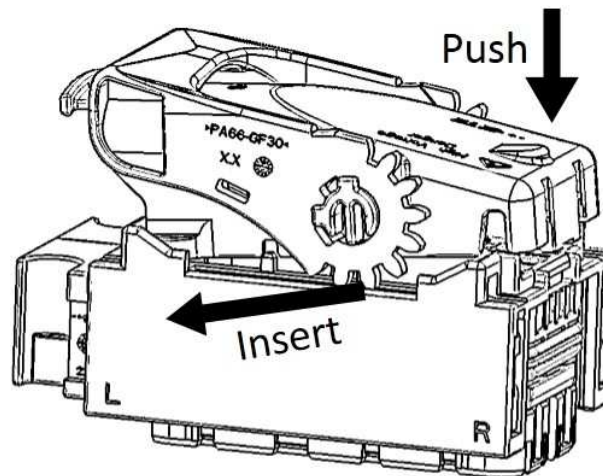
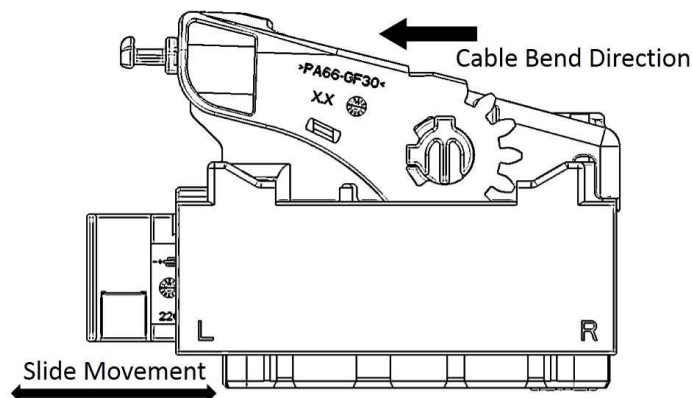

Figure 6
Figure 7
For mounting of the Cover-Lever assembly (5), the lever and slide in the housing (1) of 91 position connector must be in end lock position. The cable must be bend towards the Left side of housing (as shown in figure 6) and the Lever cover assembly (5) must be mounted and pushed till the locking noise heard (as shown in figure 7). The end lock position of the lever will be in the Left side of the housing.
If the Cover-Lever assembly (5) is mounted other than the shown direction (figure 7), the lever cannot be operated and it's unable to mate the connector with male part.